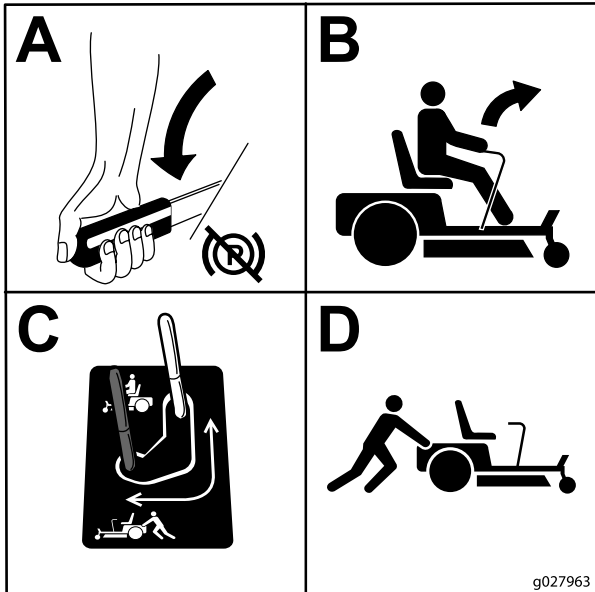

Figure 29
3. To push the machine, move both bypass levers rearward and out to lock them into place (Figure 29).
5. To run the machine, move the bypass levers to the FORWARD position (Figure 29).